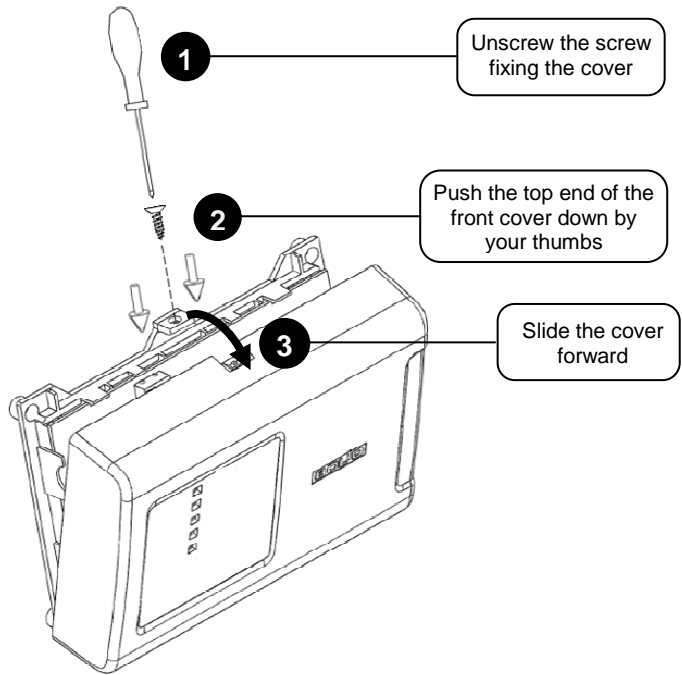

Figure 2. Opening the Front Cover
- 3.1.4 Remove the module cover as shown in Figure 2.
- 3.2.3 Remove the module cover as shown in Figure 2.